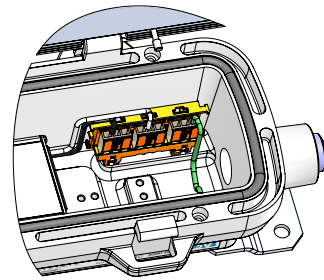

Figure 11. Input Wiring Terminal Carrier
4. Connections to the LED light engine and LED driver are pre-wired and do not require any further processing. Route the Line, Neutral and Ground input wires to the wire terminal carrier (see Figure 11) and make connections per system wiring diagrams (see Figures 14 and 15) using methods that comply with all applicable codes. Terminate the equipment grounding conductor (green) first, the common (white) next, and finally, the line voltage (black). For DC voltage applications, connect the positive (+) lead to the white wire and the negative (-) lead to the black wire. Ensure all electrical connections have been completed and terminal block lever locks are fully seated and secure. Note - Standard entries in driver housing are 3/4" NPT.